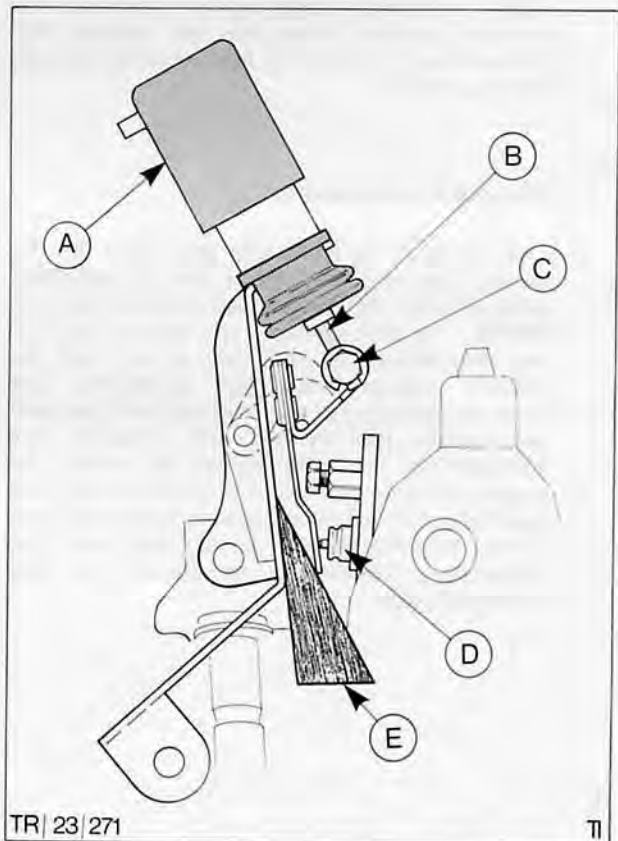

Fig. 14. Excess fuel solenoid adjustment
2. Loosen control rod adjusting clamp, ('C' in Fig. 14).
4. Fully engage solenoid by pushing control rod (B) upwards as far as possible.